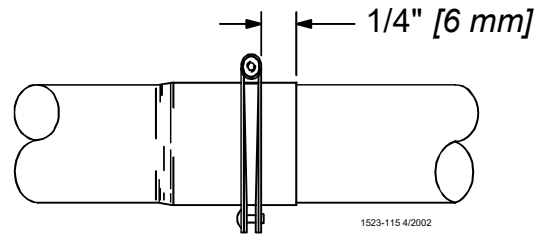

Figure 29. Assembling Feeders on the Tubes
Continue down the entire length of the feeder line so that every joint is secured with a standard Clamp or Clamp/Anti-Roost Bracket. **Figure 29** shows the proper clamp location on the tube joint. Do not tighten the clamp at this time.
- make sure the clamps are located, as shown in **Figure 29**.